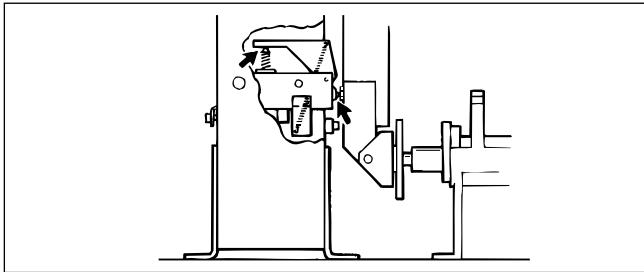

FIGURE 4-2
- Apply grease to contact points on Indicator Assembly (see Figure 4-2).